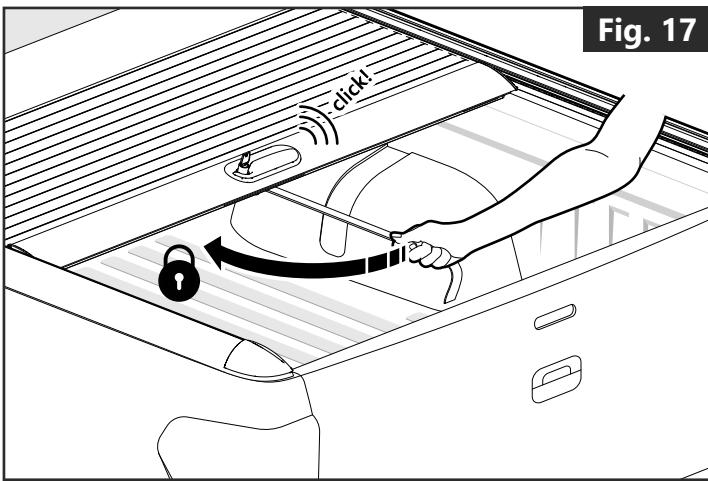

Fig. 17
- To toggle the locking system, pull the strap either left (**engage**) or right (**disengage**). (**Fig. 17+18**)